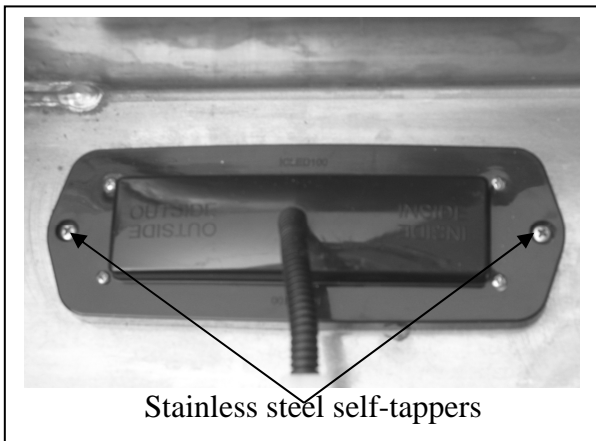

Figure 5
8. Fit ECB indicators / park lights into protection bar. Use two 10g x 15 stainless steel self-tappers (per light) over clamp late and into front surround. **See figure 5. NOTE: Left and right / park light to outside.**